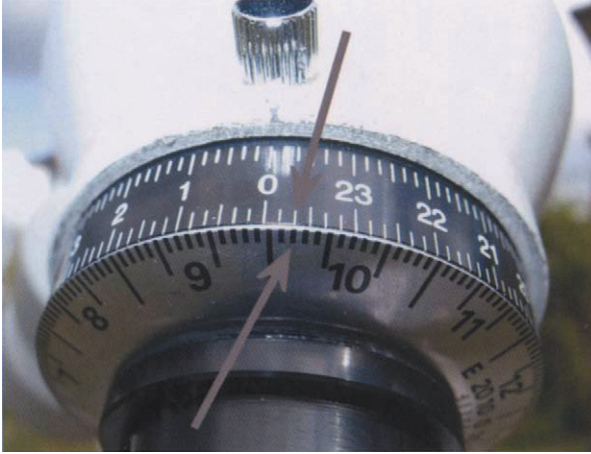

Figure 5.7. RA setting circle and calendar dial set to 4th October at a time of 23:50 local time (arrowed).
3. Unlock the RA axis and rotate it until the readings on the RA setting circle (current time) and the readings on the silver calendar dial (date) line up together. An example is shown in Figure 5.7. You must use UTC time and not daylight saving time (DST) to correctly set the RA values.